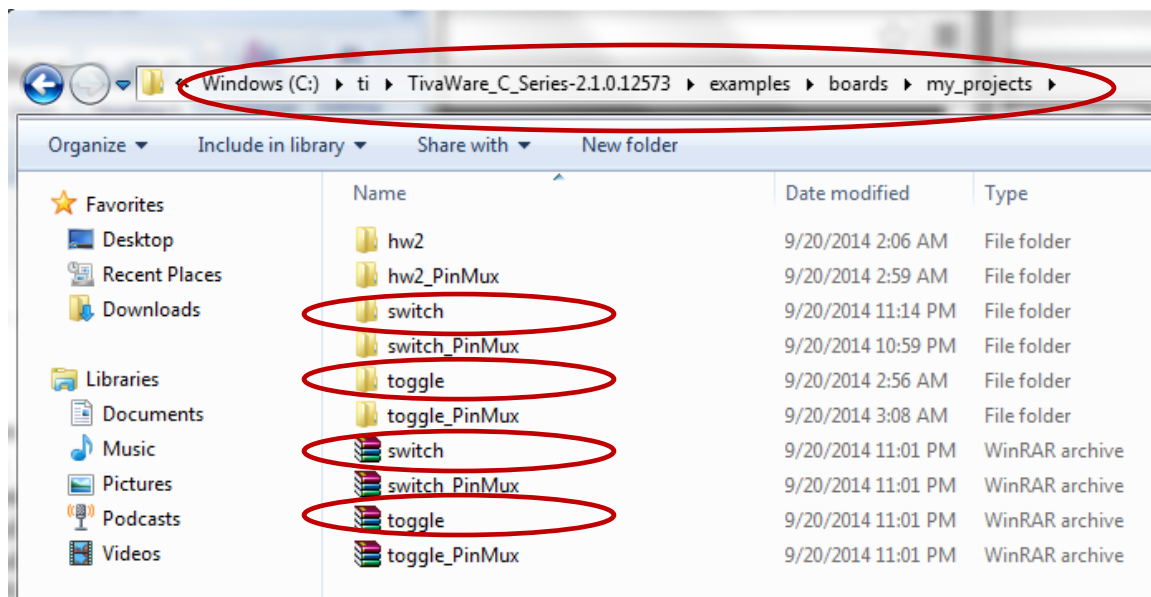

Figure 1
2. The downloaded sample projects must be saved in a specific directory in order to run correctly. It is assumed you already install the TivaWare library in C:\ti\TivaWare_C_Series-2.x.x.xxxxx. First create a new directory “my_projects” (you may have already created it in Lab 2) under C:\ti\TivaWare_C_Series-2.x.x.xxxxx \examples\boards and then save and decompress the sample projects under “C:\ti\TivaWare_C_Series-2.x.x.xxxxx\examples\boards\my_projects” as shown in Figure 1.